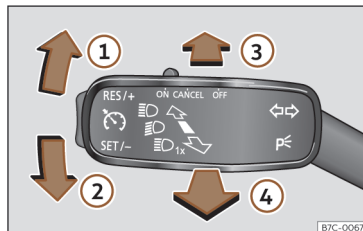

Fig. 80 Turn signal and main beam lever.
- From the base position, press the turn signal and main beam headlights lever forwards >>> Fig. 80 .
- **EITHER:** if main beam assist is on, pull the turn signal light and main beam headlights lever back >>> **Fig. 80** (4).